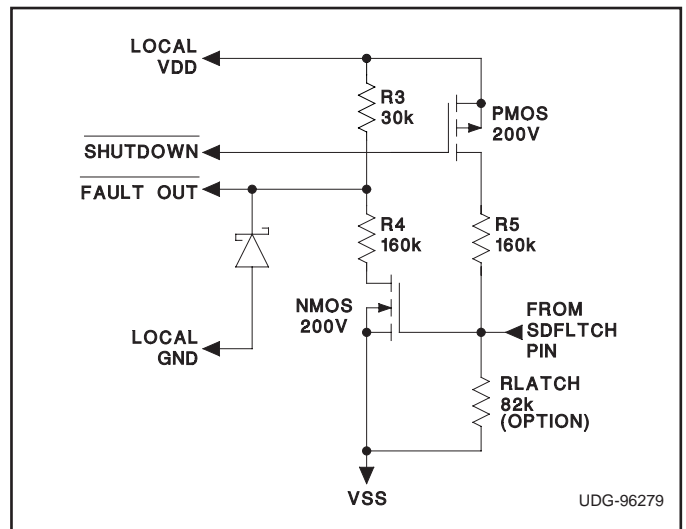

Figure 6. Possible Level Shift Circuitry to Interface to the UCC3921, showing component values selected for a typical telecom application.
Some type of circuit is needed to interface with the UCC3921 via SDFLTCH, such as opto-couplers or level shift circuitry. Figure 6 depicts one implementation of level shift circuitry that could be used, showing component values selected for a typical -48V telecommunications application. There are three communication conditions which could occur; two of which are Hot Swap Power Manager (HSPM) state output indications, and the third being an External Shutdown.
- 1) When open, and under a non-fault condition, SDFLTCH is pulled to a low state. In Figure 6, the N-channel level shift transistor is off, and the FAULT OUT signal is pulled to LOCAL VDD through R3. This indicates that the HSPM is not faulted.
- 2) When a fault is detected by the fault timer or under-voltage lockout, this pin will drive to a high state, indicating that the external power FET is off. In Figure 6, the N-channel level shift transistor will conduct, and the FAULT OUT signal will be pulled to a Schottky Diode voltage drop below LOCAL GND. This indicates that the HSPM is faulted. The Schottky Diode is necessary to ensure that the FAULT OUT signal does not traverse too far below LOCAL GND, making fault detection difficult.
If a $5k < R_{LATCH} < 250k\Omega$ resistor is tied between SDFLTCH & VSS, as optionally shown in Figure 6, then the latched operating mode (described earlier) will be invoked upon the occurrence of a fault.